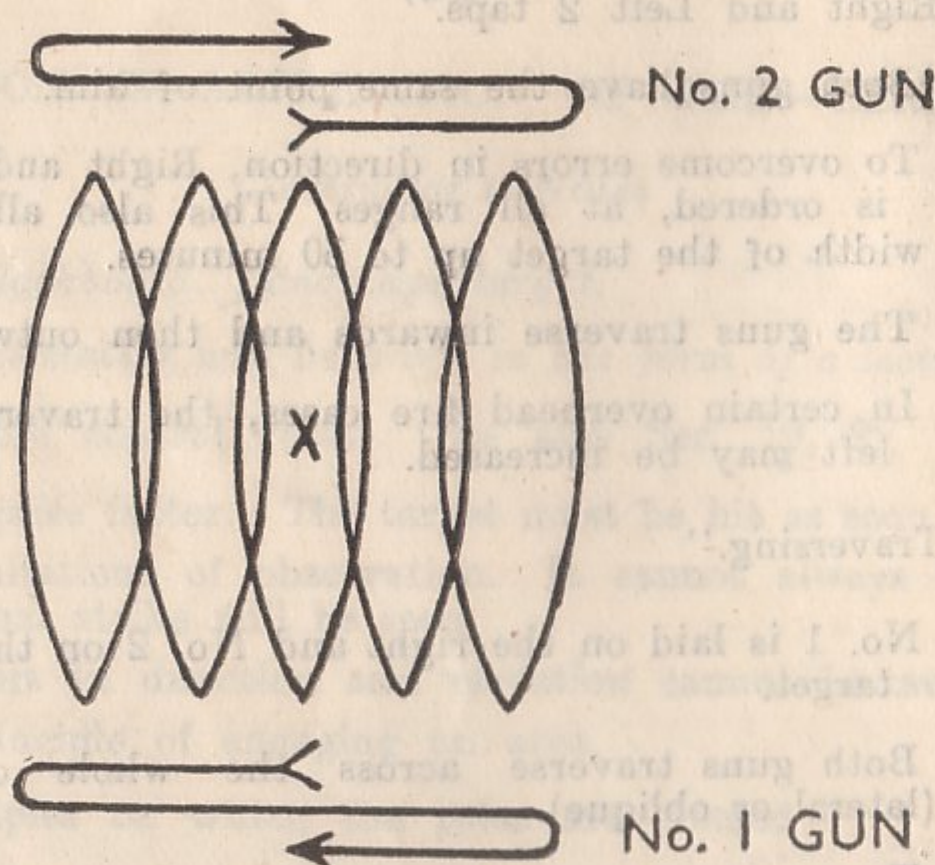

FIG. 13. RIGHT AND LEFT 2 TAPS.
2. Illustrate a section engaging a Group A target, at a range of 1,000 yards. (Fig. 13.)